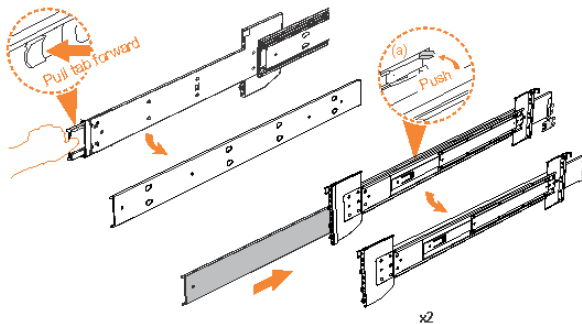

Figure 44. Detaching the inner rail section
3. Remove the inner member of the rail. Push the tab (a) and slide the middle rail member back, as shown in Figure 44 on page 86.